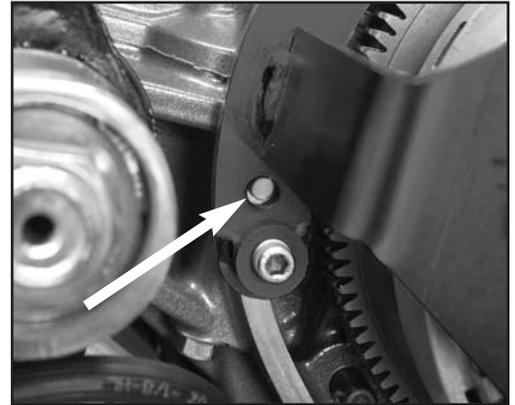

Fig. 1
1. Install Clutch Hub Holder No.1674. (**Note:** Clutch hub holder can be installed in one position only.) There is a dowel pin **Fig. 1** used to align the crankcase cover, use this to align the clutch hub holder. You may have to rotate the engine slightly to get clutch hub holder to align properly.